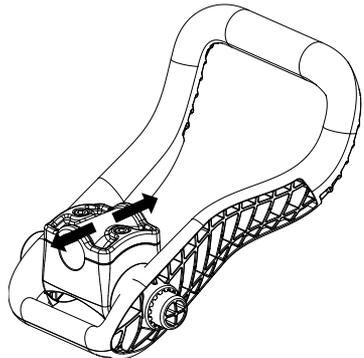

Fig. 2
2. You can position the handle at the desired height on the handle by unscrewing the two bolts and move the mid grip handle up or down to the desired position, then screw and fully tighten the two screws to fasten it in place. (Fig.2)